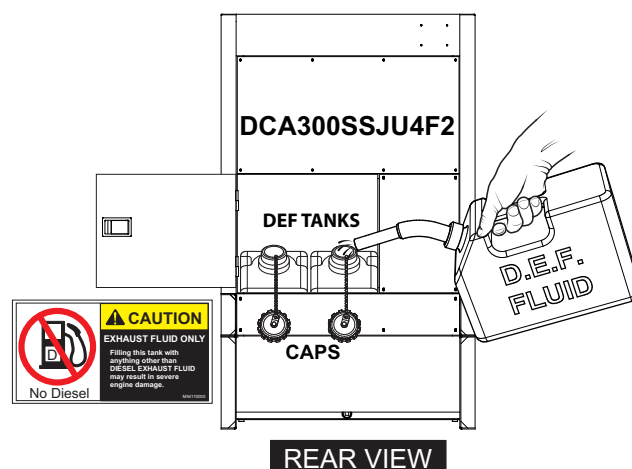

Figure 43. DEF Tank Filling (DCA300SSJU4F2)
2. For DCA300SSJU4F2 generators, open the **enclosure rear door**, remove the filler cap from both DEF tanks and fill with DEF fluid (Figure 43).